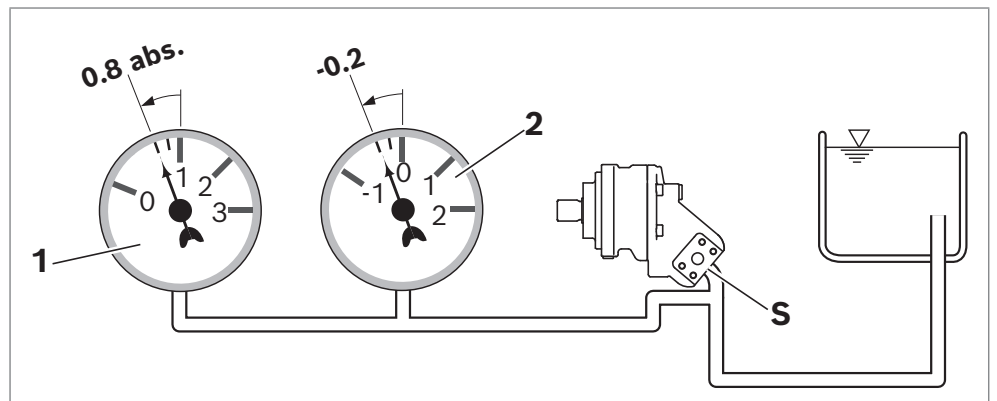

Fig. 6: Suction pressure
- ▶ Make sure that a minimum suction pressure of 0.8 bar absolute is present at port **S** during operation for all installation positions and installation locations of the axial piston pump; see Fig. 6. See data sheet for other pressure values.